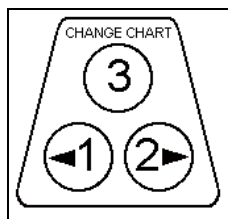

Figure 4: Push buttons.
Press and hold the "change chart" button (#3) for approximately one (1) second until the pen begins to move to the left and then release the button (refer to Figure 4). Wait until the pen has moved onto the pen lift ramp (if available) or near the edge of the chart paper and stops. To remove the chart paper, unscrew (counter-clockwise) the chart "hub" knob at the center of the chart. Remove the old chart paper and position the new one so that the correct time line coincides with the time line groove on the chart plate. Refer to Figure 6 for the location of the time line groove.
(1) second until the pen begins to move to the left and then release the button (refer to Figure 4). Wait until the pen has moved onto the pen lift ramp (if available) or near the edge of the chart paper and stops. Press and hold the "change chart" button (#3) once more until the pen begins to move back onto the chart. The pen should briefly pause at the outer most graduation of the chart before continuing onto the chart to begin recording. If the pen does not stop exactly at this location on the chart, it can be adjusted by using the left (#1) or right (#2) arrow buttons (refer to Figure 4).
When the pen moves back onto the chart and briefly stops, you will have approximately three (3) seconds in which to adjust the pen's position using the left and right arrow buttons of Figure 4. If the time expires before you have a chance to make this adjustment, you can simply repeat this procedure.